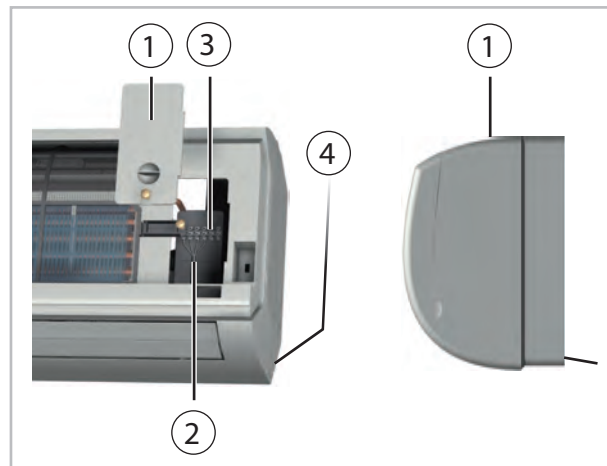

Fig. 41: Connecting the indoor unit
2. ➤ Remove the covers on the right-hand side (Fig. 41).
3. ➤ Connect the customer-laid control line to the terminals (Fig. 41).